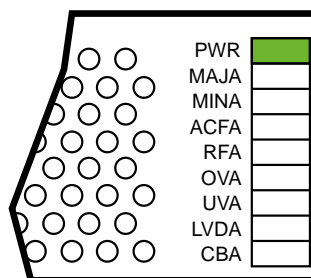

Figure 7 - LED Indicators
10.1 FRONT PANEL LED's: During normal operation there will be one green LED displayed as shown in figure 7 opposite.